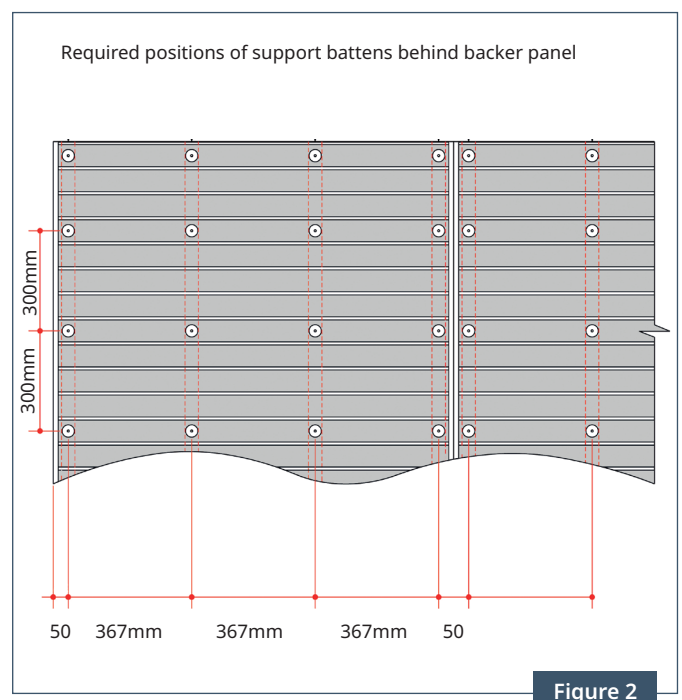

Figure 2
- Framing must be attached directly to the existing stud configuration. See Figure 2.
There must be 4 vertical fixing members behind each 1.2m wide panel. See Figure 2.
I-Clad panels are normally fixed to vertical battens or studs, top hats or other bracket systems. These must be located accurately to coincide with system design fastener layout (see Figure 2, page 2). For detailed Fixings Layout diagram, please visit eurobrick.co.uk/downloads.